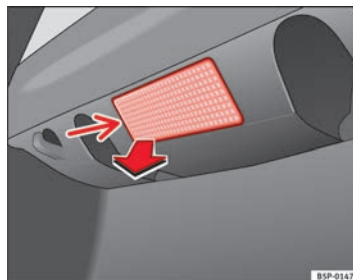

Fig. 198 Luggage compartment light
- Extract the bulb by pressing on its inside edge -arrow- using the flat side of a screwdriver ⇒ Fig. 198.